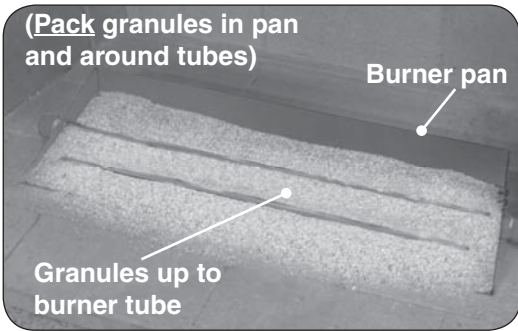
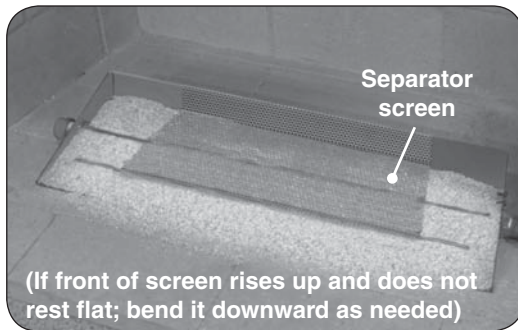
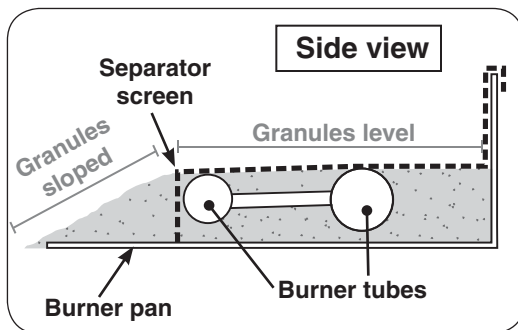

Fig. 8-1
Fig. 8-2
Fig. 8-3
1. Pour the granules into the pan until they just cover the burner tubes. Then pack the granules in the pan and around the burner tubes. Add additional granules as needed to end with the granules **level** with the top of the burner tubes. Slope the granules in the front portion of the pan. See Fig. 8-1 and Fig. 8-3.
2. Place the separator screen over the granules such that the rear of the screen hooks over the top and back of the burner pan, as shown in Fig. 8-2 and Fig. 8-3. If the front of the screen rises up from the floor of the pan, bend it downward as needed.